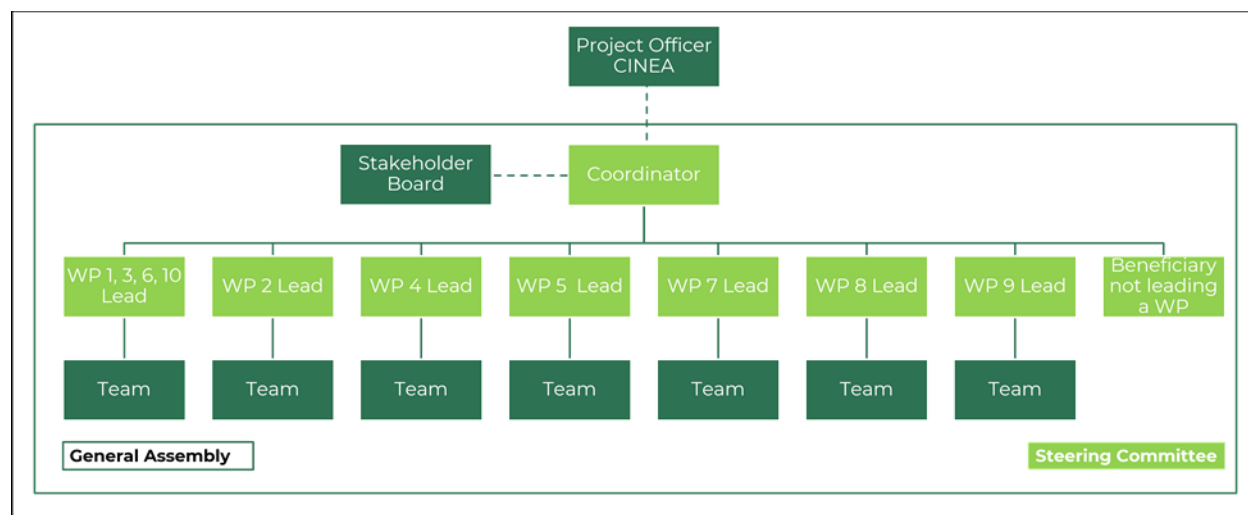

Figure 2. FERRO governance structure
The FERRO governance structure (Figure 2) is made up of the General Assembly (GenA) and the Steering Committee (SC), Board of Stakeholders. The Project Coordinator (PC), UFZ, establishes management structures and procedures, ensures adherence to the project timeline, and coordinates work and information flow. The PC oversees overall administrative and financial coordination, internal communication, and liaison with the EU, as specified in the GA (Section 6.5), and chairs both the GenA and SC meetings.